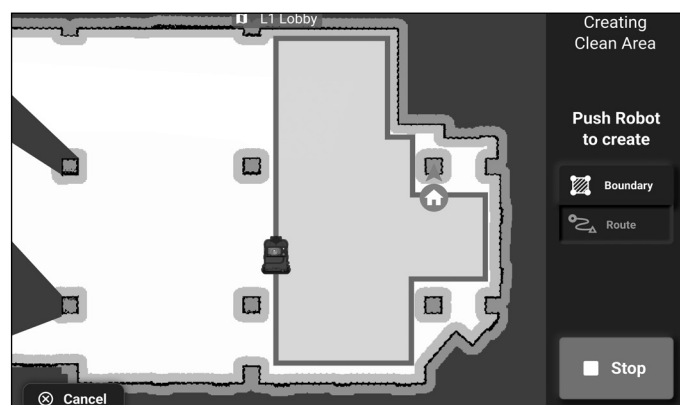

Figure 34
14. While creating the cleaning area, switching between boundary and route is allowed (**Fig. 34**).
15. When satisfied, press 'Stop' (**Fig. 34**).